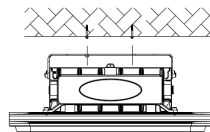

Fig. 8
4. Tighten the nut of the screws (Fig. 8).